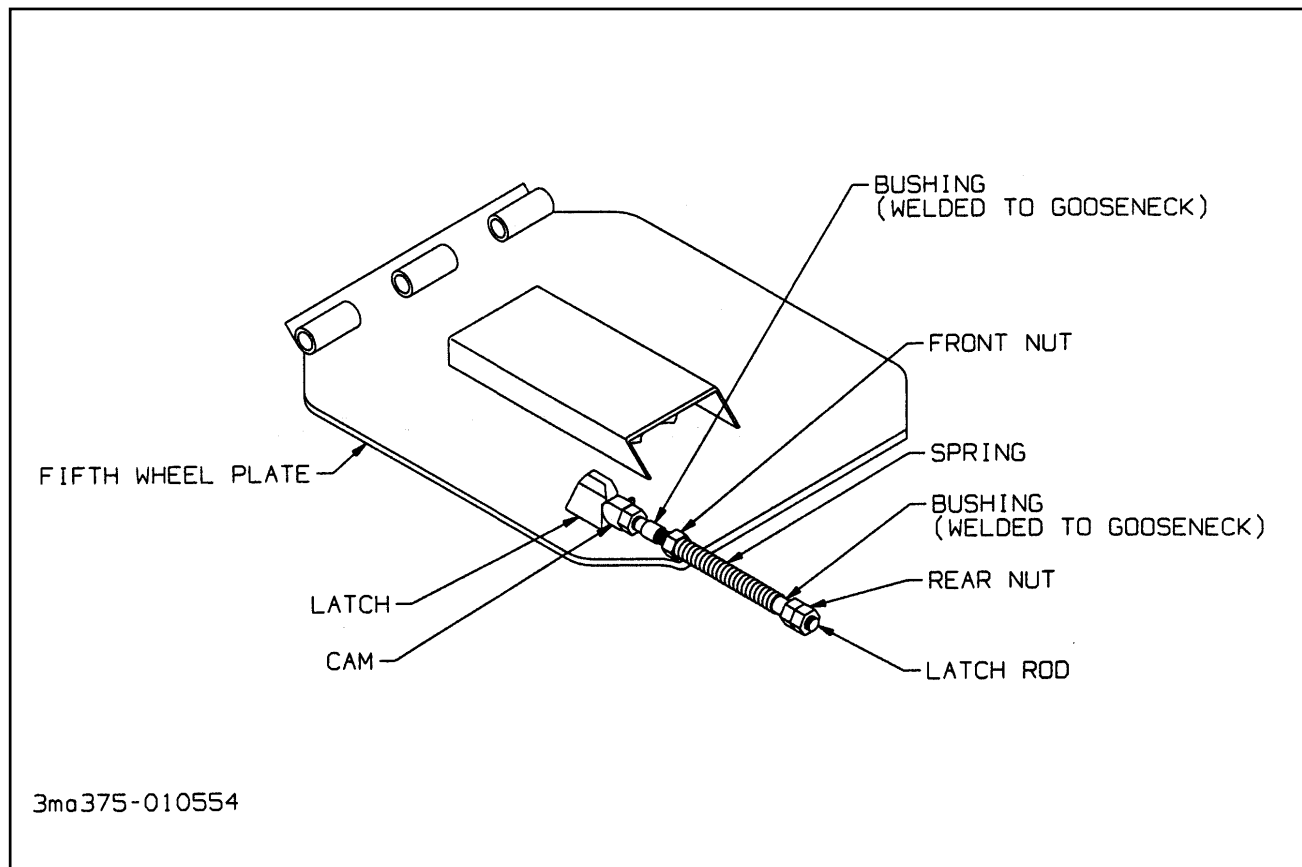

Figure 4-2 Fifth Wheel Latch Adjustment
- a. To adjust fifth wheel latch assembly, support fifth wheel plate and adjust rear nut until the cam just touches the flat surface on the latch (**See Figure 4-2**).